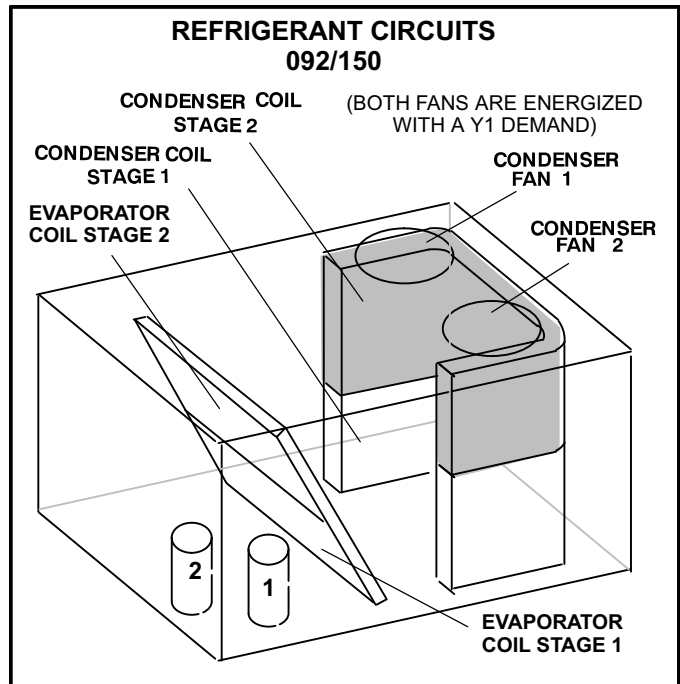

FIGURE 16
- 3- Units contain two refrigerant circuits or stages. See figure 16.